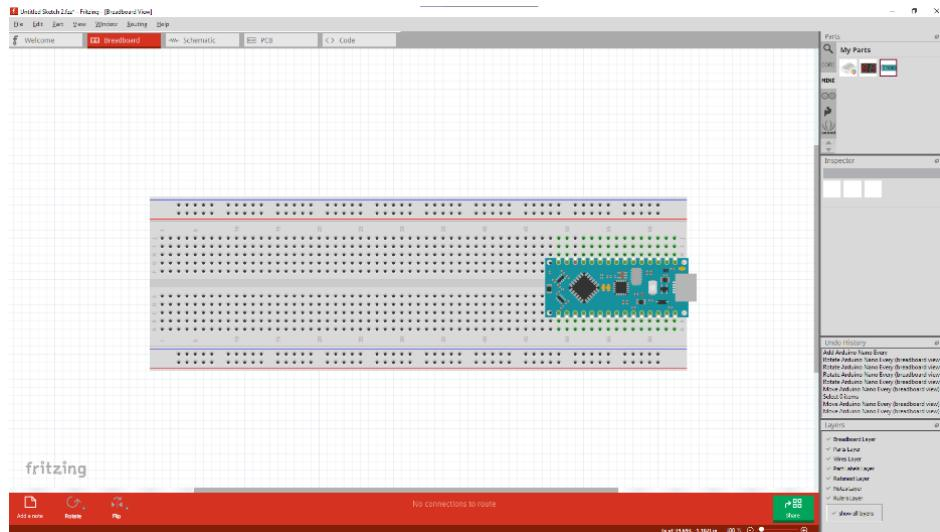

Figure 2. Default configuration for ECE 206.
- For this lab we will use the Arduino Nano (Rev. 3) found in the fourth category as a stand in for the Arduino Nano every since they have the same pinout. Click and drag the Arduino Nano into the main area and onto the breadboard. Since we are using the Arduino Nano Every for our labs, this will be our' default configuration'. Your screen should look like Figure 2 (USB port facing off the board).